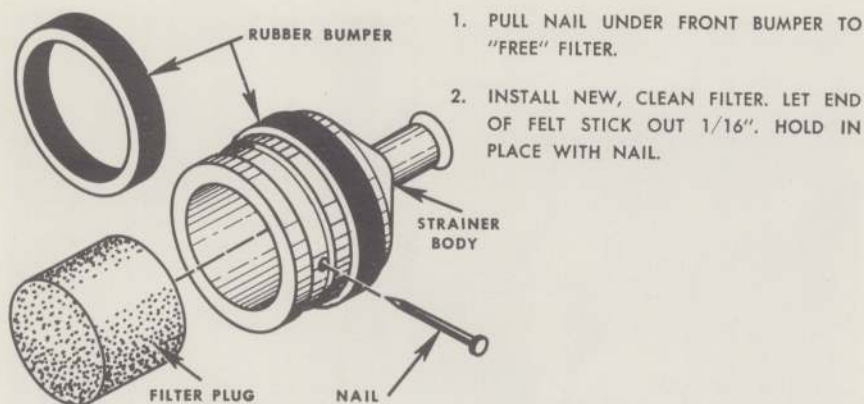

Figure 15—Changing Fuel Filter in Fuel Tank
(4) CHANGING FUEL TANK FILTER (See figure 15)
- (b) Remove dirty filter and install clean filter as shown in figure 15.